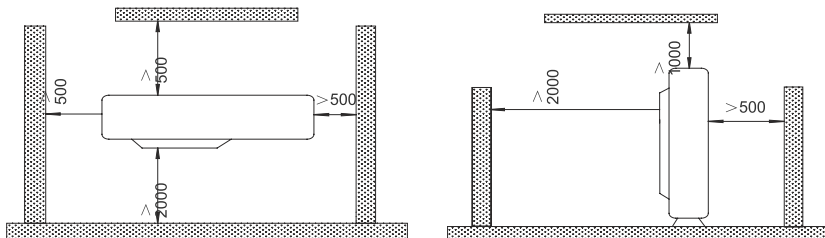

Fig.3
- (1). Install the outdoor unit in a place where it will be free from being dirty or getting wet by rain as much as possible.
- (2). Install the outdoor unit where it is convenient to connect with the indoor unit.
- (3). Install the outdoor unit where the condensate water can be drained out freely during heating operation.
- (4). Do not place animals and plants in the path of the warm air.
- (5). Take the air conditioner weight into account and select a place where noise and vibration are small.
- (6). Install the outdoor unit where is capable of withstanding the weight of the unit and generates as less noise and vibration as possible.
- (7). Provide the space shown in Fig.3, so that the air flow is not blocked. Also for efficient operation, leave three of four directions of peripheral constructions open.